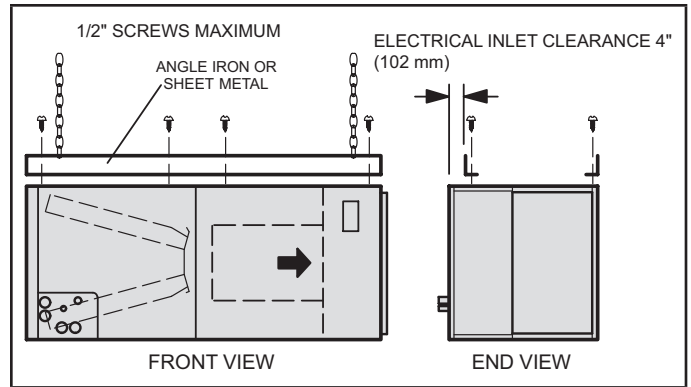

FIGURE 3. Suspending Horizontal Unit
- 5 - If the unit is suspended, the entire length of the cabinet must be supported. If you use a chain or strap, use a piece of angle iron or sheet metal attached to the unit (either above or below) to support the length of the cabinet. Use securing screws no longer than 1/2 inch (12.7mm) to avoid damaging the coil or filter as illustrated in Figure 3. Use sheet metal screws to connect the return and supply air plenums as required.
- 13 - If suspending the unit, it must be supported along the entire length of the cabinet. If using chain or strap, use a piece of angle iron or sheet metal attached to the unit (either above or below) so that the full length of the cabinet is supported. Use securing screws no longer than 1/2" to avoid damage to coil or filter, as illustrated in figure 3. Connect return and supply air plenums as required using sheet metal screws.